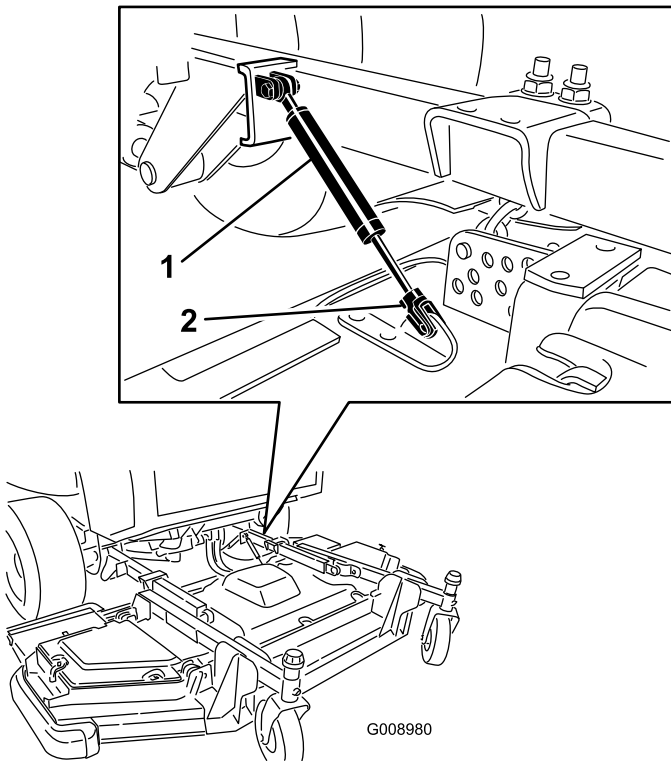

Figure 135
3. Remove the retainer clip and disconnect the damper assembly from the cutting unit (Figure 135).